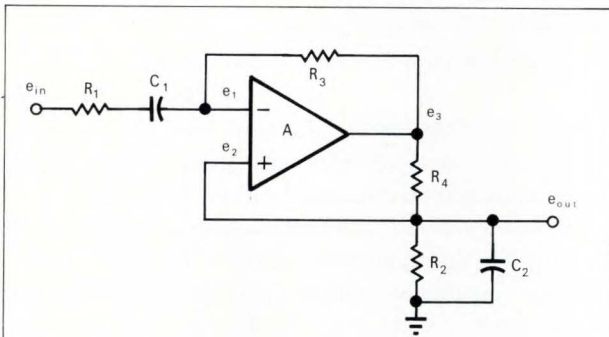

Fig. 3—RC networks are synthesized to replace  $Z_1$  and  $Z_2$  of **Fig. 2** to give the desired bandpass characteristics.
**Eqs. 10** and **11** can be synthesized by RC networks such that the bandpass filter can be depicted by **Fig. 3**. In this circuit,
Therefore, an expression for the transfer function of the op amp itself is necessary. Referring to **Fig. 3**, we want an equation for the ratio  $\frac{e_3}{e_{in}}$ . For ease of component selection let  $R_1 = R_2 = R$ ,  $C_1 = C_2 = C$ , and
An inspection of **Eq. 20** shows that the gain at high frequencies is equivalent to  $\frac{R_3}{R}$ . This can also be seen from an inspection of **Fig. 3**.
The most practical method for evaluating **Eq. 19** is by a computer programmed for a Bode plot printout. The frequency response for various values of  $R_3$ , is determined to give the maximum gain of the op amp at the center frequency. Knowing the peak input and maximum gain, the peak output can be computed. This can then be compared to the output swing limitations of any op amp under consideration. The subsequent limitations on  $R_3$  are: 1) a maximum value that provides operation in the linear region; i.e. no saturation and distortion, and 2) a minimum value to insure that the op amp load impedance is high enough to be properly driven by the integrated circuit. **Fig. 3** indicates this load impedance to be a function of  $R_2$ ,  $R_3$  and  $R_4$ , and also of  $C_2$  as a function of frequency.